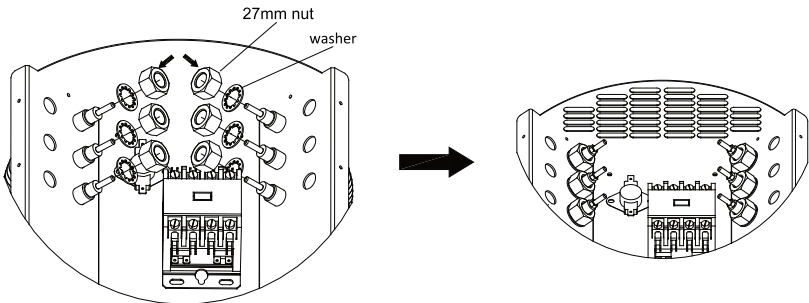

Figure 13
4. Install the new heating element in its appropriate position using the hardware removed in step 2. Ensure that the smaller heating element is replaced prior to installing the larger heating element (See Figure 13).